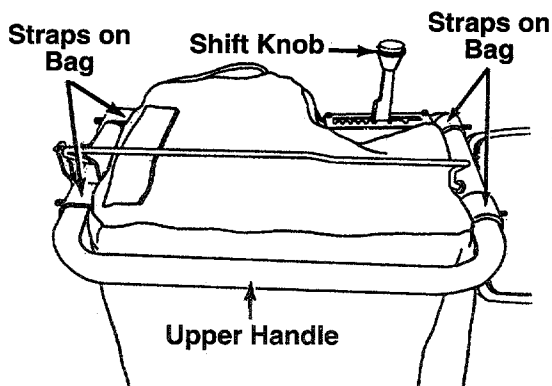

FIGURE 7.
NOTE: To determine right and left hand sides of your chipper-vacuum, stand behind and face the unit (Refer to figure 7).
2. Place the four straps on the top of the bag over upper handle, hooking them on studs. See figure 7. Be sure the bag goes under the drive clutch handle.